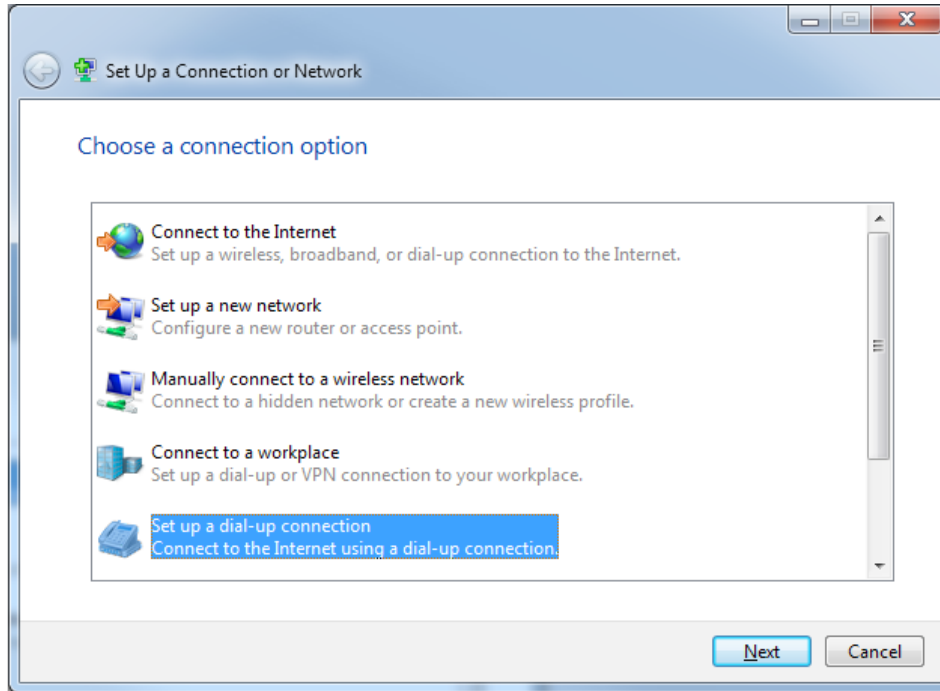

Figure 60. Set Up a Connection or Network.
3. A window similar to the one shown in Figure 60 appears. Choose "Set up a dial-up connection" option, and click "Next" button.